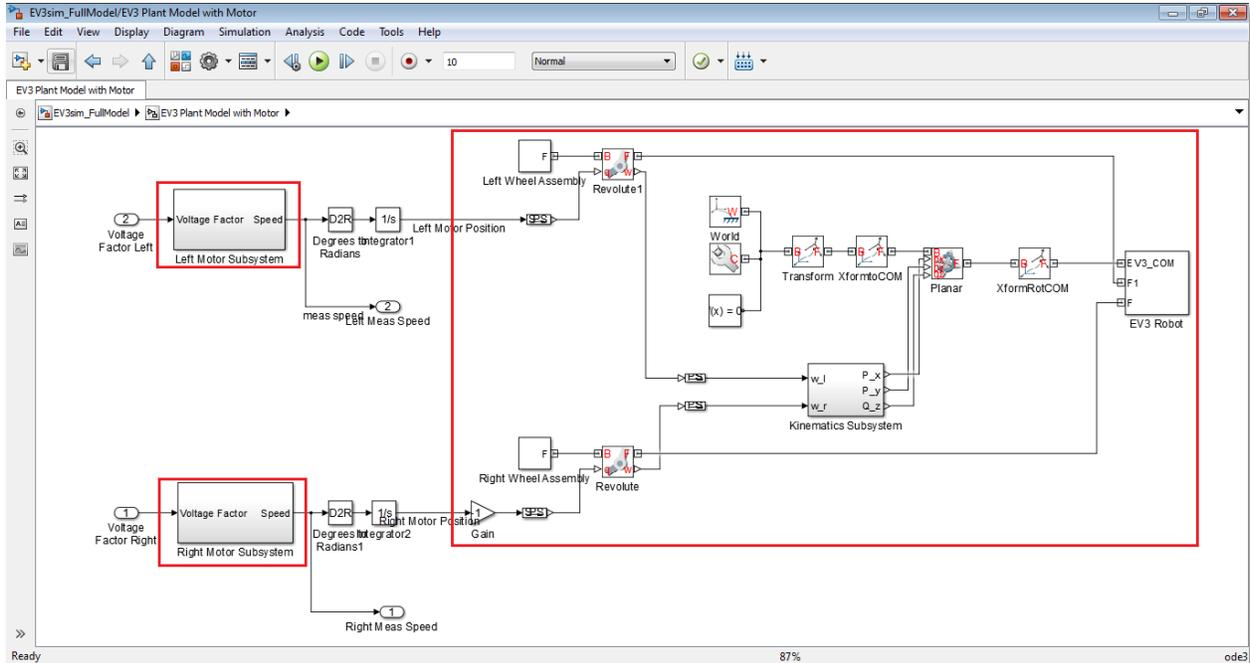

Figure 42 - Motor Subsystems feeding to the Mechanical Assembly
2. Note that in 'EV3sim\_FullModel/EV3 Plant Model with Motor' the motor feeds the speed and hence position to a mechanical assembly (Figure 42). Also, navigate to 'EV3sim\_FullModel/EV3 Plant Model with Motor/Left Motor Subsystem' subsystem. This is the same model that we developed in OP1.2.